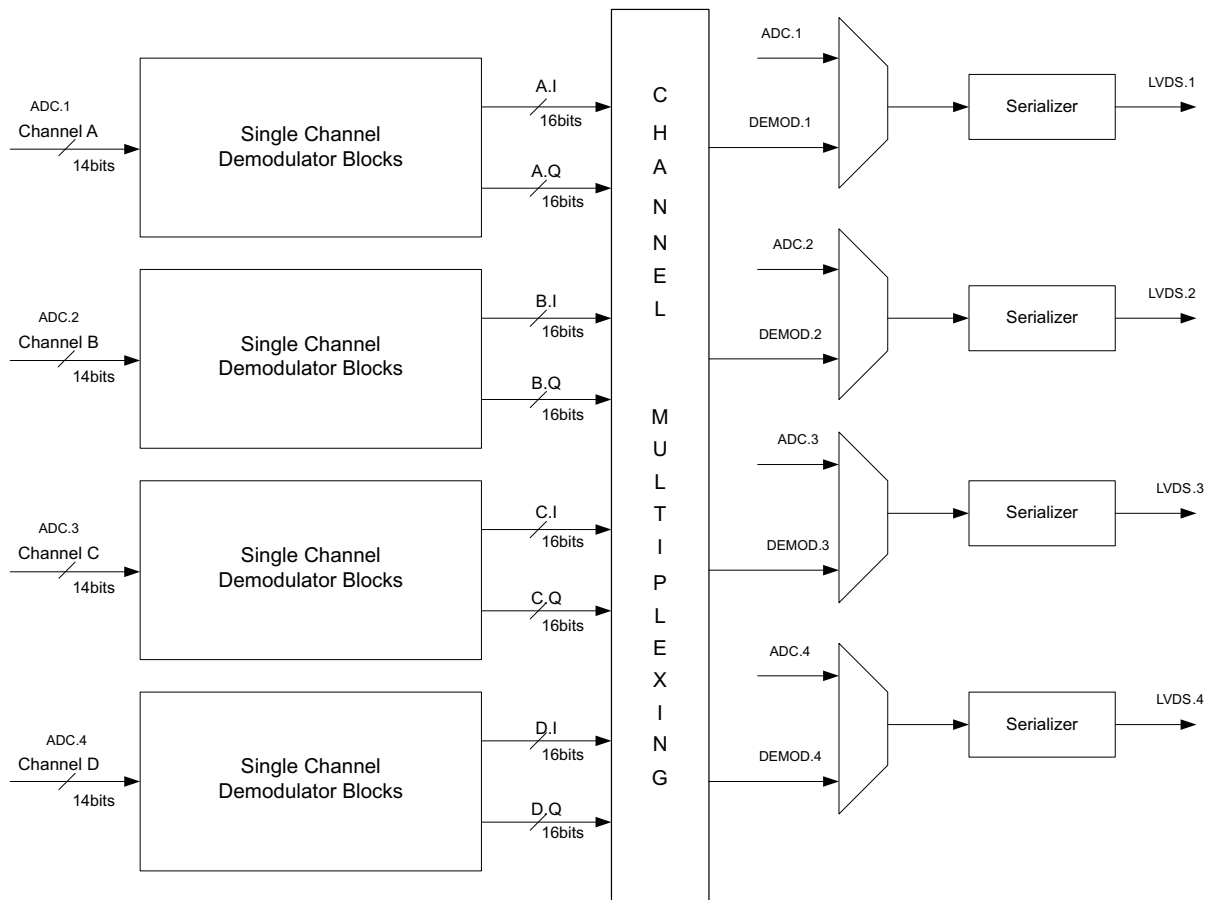

Figure 76. Channel Multiplexing
3. The decimator block has two functions: decimation filter and down sampler. Decimation filter is a variable coefficient symmetric FIR filter and its coefficients can be given using coefficient RAM. Number of taps of FIR filter is $16 \times$ decimation factor (M). For decimation factor of M , $8M$ coefficients have to be stored in the coefficient bank. Each coefficient is 14-bit wide. Down-sampler gives out 1 sample followed by $M - 1$ samples zeros.
4. In Figure 76, channel multiplexing is implemented for flexible data routing: